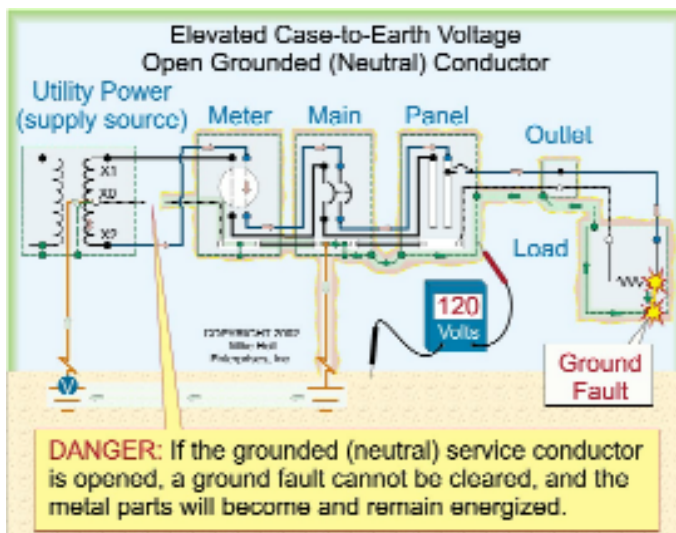

Figure 250-64
**Shock Hazard.** However, if the grounded (neutral) service conductor, which serves as the effective ground-fault current path, is opened, a ground fault cannot be cleared and the metal parts of electrical equipment, as well as metal piping and structural steel, will become and remain energized providing the potential for electric shock. Figure 250-64